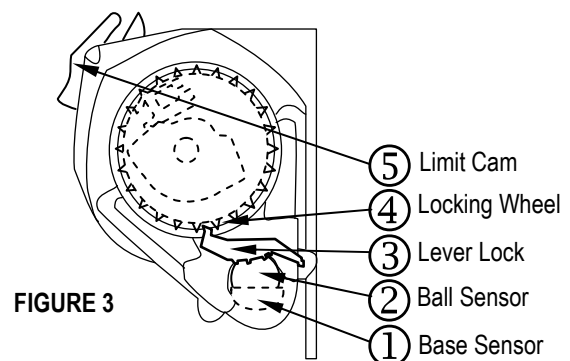

FIGURE 3
2. Once positioned correctly the Ball sensor (Fig.3 item 2 & Fig.4) should be at its lowest position inside the Base Sensor (Fig.3 item 1 & Fig.4) allowing the Lever Lock (Fig.3 item 3) to fall, disengaging the Locking wheel (Fig.3 item 4).
3. If the Lever lock (Fig.3 item 3) is still engaged while the retractor is positioned correctly, roll the webbing in a little further. This should unlock the internal mechanism and allow the Lever lock (Fig.3 item 3) to fall.
5. Place the Yellow Plastic Limit Cam (Fig.3 item 5) back into position to allow for easier installation.